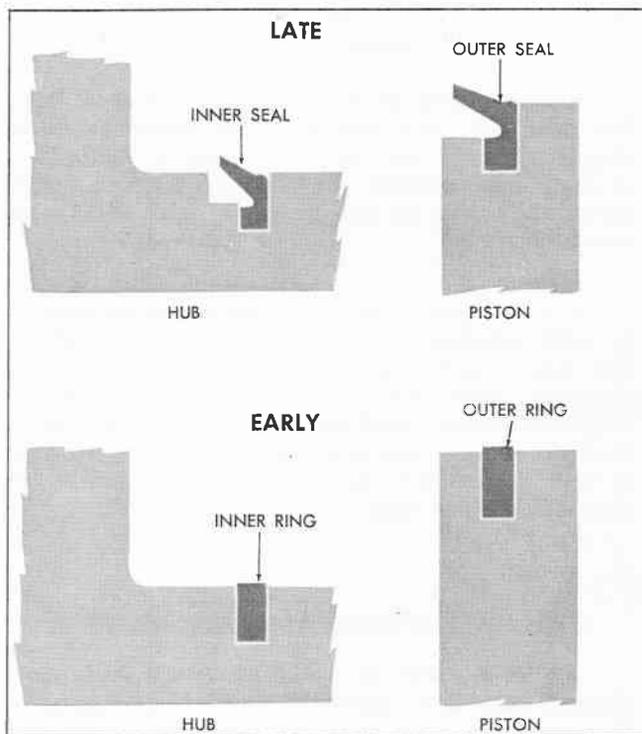
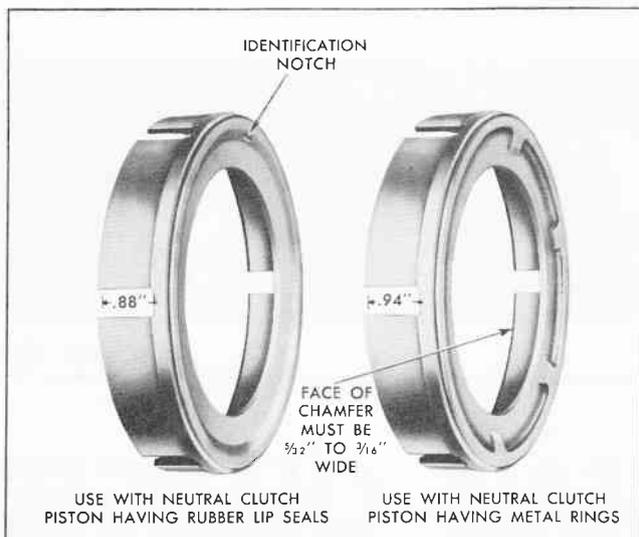

Fig. 1 Early and Late Type Hub and Piston
Fig. 2 Early and Late Type Neutral Clutch Drum
1. Overrun Clutch-- The new seals for the overrun clutch piston are now in production. In conjunction with the use of new seals, a new front pump assembly and overrun clutch piston assembly went into production. The difference in design of the seal grooves in these parts can be seen in Fig. 1.
2. Reverse Clutch-- The new seals for the reverse clutch piston are now in production along with a new rear pump (to accommodate the inner seal) and a new clutch piston (to accommodate the outer seal). The seal grooves in the early and late hubs are shown in Fig. 1. The ring grooves in the early and late reverse clutch pistons are very similar and both look like the late type in Fig. 1. The only sure identification of the early and late reverse clutch pistons is to test the fit of the metal oil ring in the groove. The metal ring will not fit in the groove designed for the rubber seal since this groove is slightly narrower.
3. Neutral Clutch-- The new seals for the neutral clutch will go into production in the near future. Along with the change in seals a new case center support and neutral clutch piston will be required in production. The difference in design of the seal grooves can be seen in Fig. 1. Also required is a new neutral clutch drum (Fig.2).